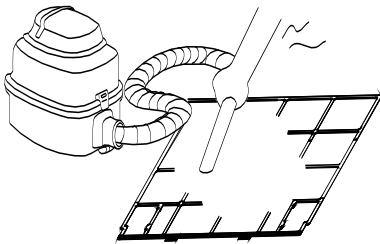

Fig. G3
4. The air-in side should face up when using vacuum cleaner.(see Fig.G3)